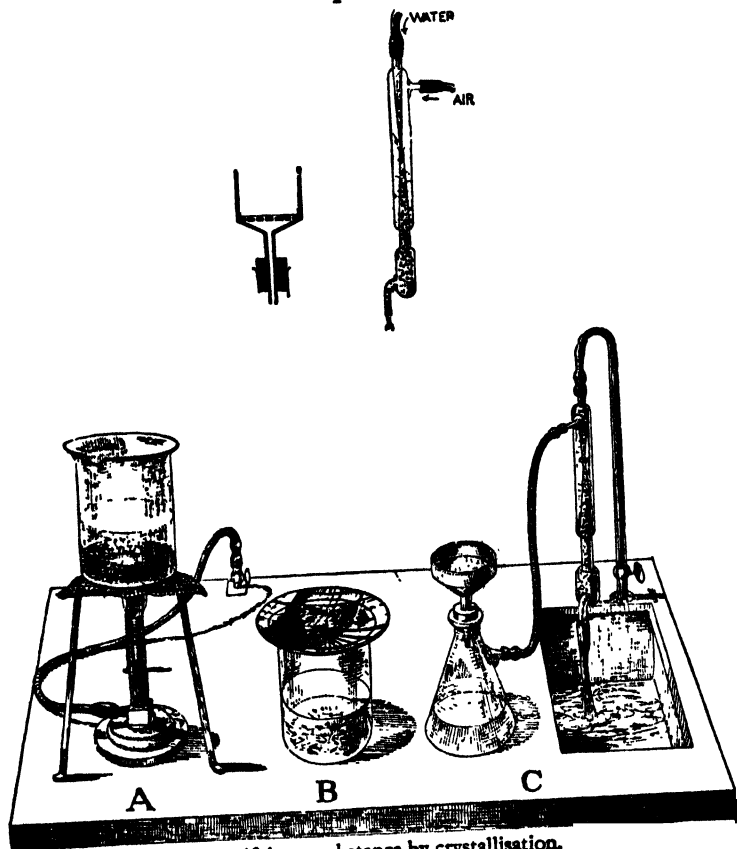

FIG. 349.—Purifying a substance by crystallisation.
These things can be purified by crystallisation. The principle is quite simple. Suppose you have a mixture of, say, Glauber's salt (sodium sulphate) with about a twentieth of its weight of ordinary salt. You can dissolve 20.25 grams of Glauber's salt and no more in 100 cubic centimetres of cold water ( $10^{\circ}\text{C}$ .) and a considerable amount of common salt as well. But you can dissolve 65 grams of Glauber's salt and a large amount of common salt in the same amount of warm water at  $30^{\circ}\text{C}$ . So take 65 grams of your mixture containing 61.75 grams of Glauber's salt and 3.25 grams of common salt, and dissolve it in 100 c.cs. of warm water at  $30^{\circ}\text{C}$ . or more. Now let it cool to  $10^{\circ}\text{C}$ . The water will still dissolve the 3.25 grams of salt but will only dissolve 20.25 grams of Glauber's salt. So, the odd 41.5 grams ( $61.75-20.25$ ) of the latter appears as pure crystals without any salt! The chemist would probably do the operation as in Fig. 349. He would warm up the salt mixture and water in a beaker, a strong thin glass tumbler with rounded corners (A). He would leave this to cool with a "clock-glass" over it to keep out dust (B). He would then
suck the liquid away from the crystals with the clever little gadget shown inset in Fig. 349. The jet of water mixes with air in the conical tube and carries it away as a froth of bubbles. This reduces the air pressure in the filter flask (C). The affair at the top of this is a kind of china colander, covered by a filter paper, which is a sort of strong thin porous blotting-paper. The pressure of the air pushes the liquid through into the flask and the crystals stay behind on the paper. The crystals are pure Glauber's salt: but